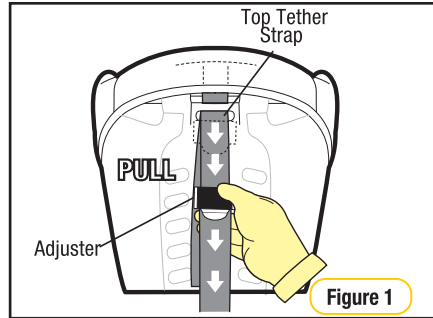

Figure 1
Step 1: Pull adjuster and strap to extend the location of the adjuster assembly (refer Figure 1).